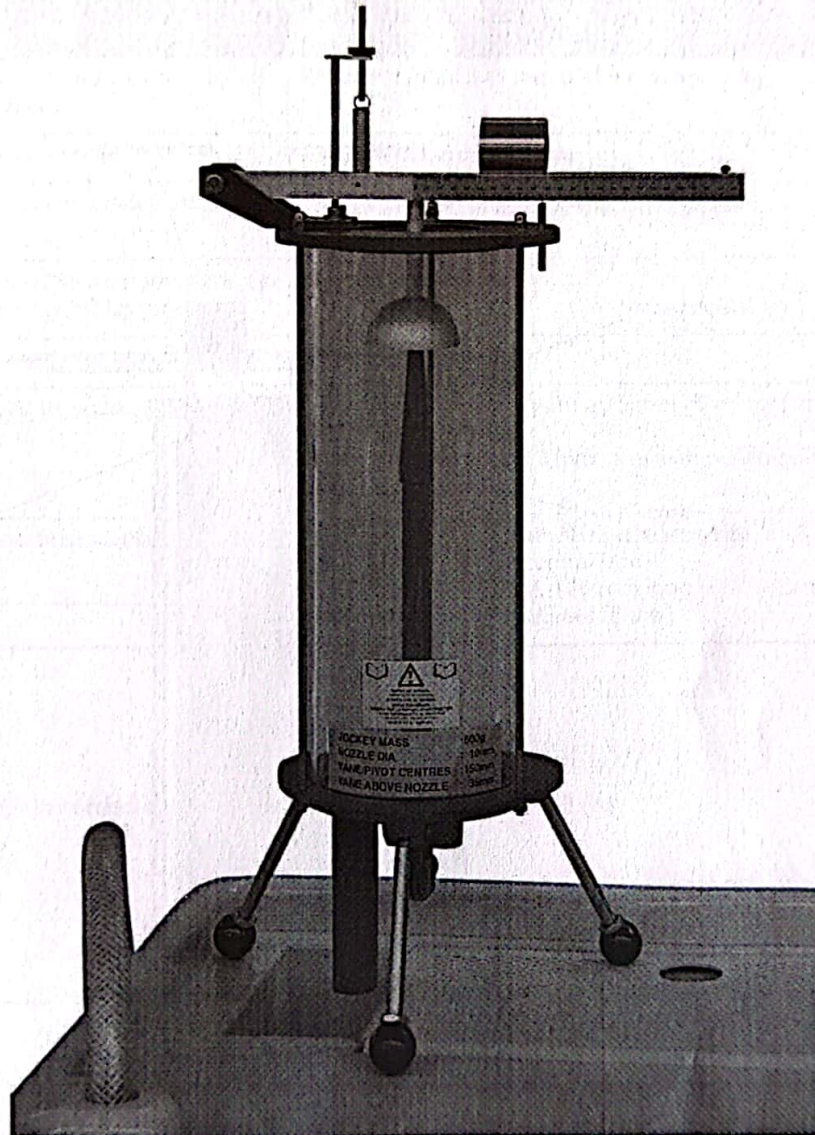
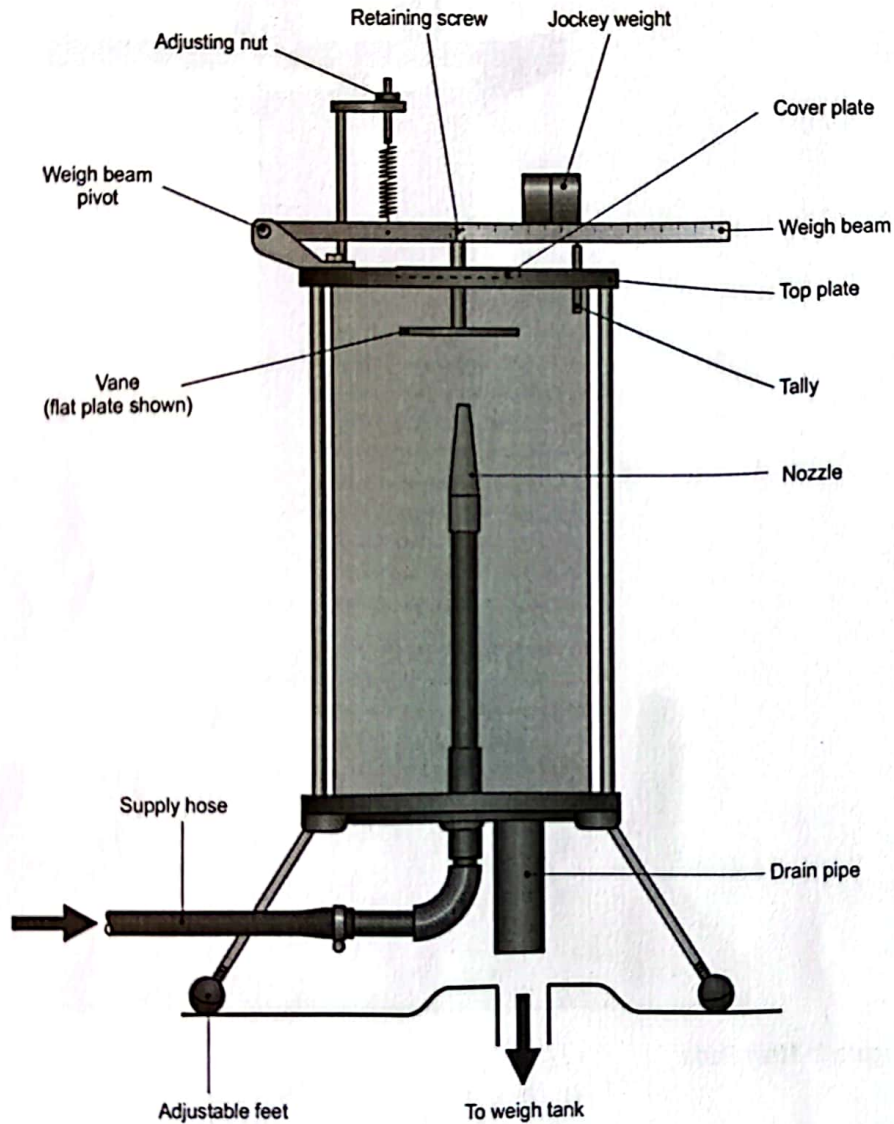
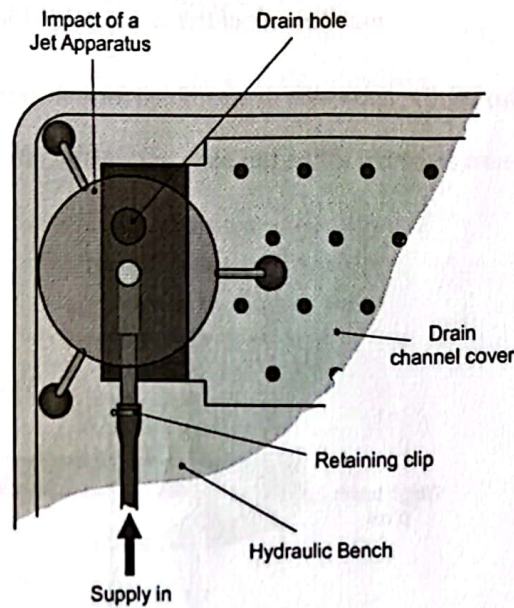

Figure 2 Main Parts
Figure 3 General Layout
Figure 6 Put Over the Open Channel of the Volumetric Bench
Figure 2 shows the main parts of the equipment - shown on the top of a TecQuipment Hydraulic Bench (supplied separately). Figure 3 shows a more detailed drawing of the apparatus. The unit fits onto either a H1 or H1D bench (supplied separately), which can supply water and measure flow.
Figures 2 and 3 show the vane (hemispherical cup or the flat plate) supported by a pivoted beam, restrained by a light spring. The beam carries a jockey weight. Adjusting the jockey weight sets the beam to a balanced position (as indicated by the tally) along with adjustment of the knurled nut above the spring. Any force generated by impact of the jet on the vane may now be measured by moving the jockey weight along the lever until the tally shows that the lever is back at its original balanced position.
5. Put the exit of the drain pipe tank directly over the hole in the middle of the Gravimetric Bench (see Figure 3), or over the open channel of the Volumetric Bench (see Figure 6).